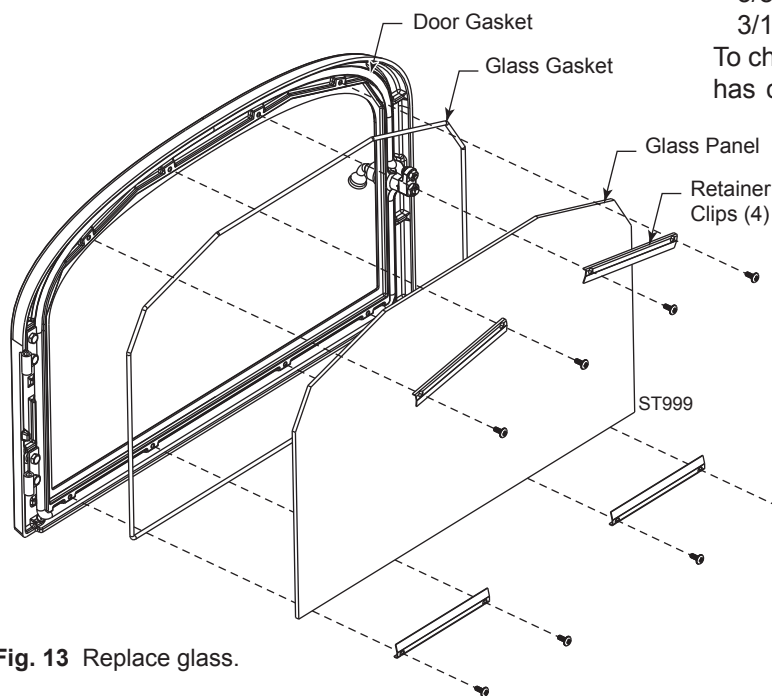

Fig. 13 Replace glass.
- Open the door and loosen the four retaining clip screws that hold the glass to the door. Swing the clips out of the way. Tilt the glass away from the door frame and lift up. (Fig. 13) Wear gloves and use caution when handling broken glass.